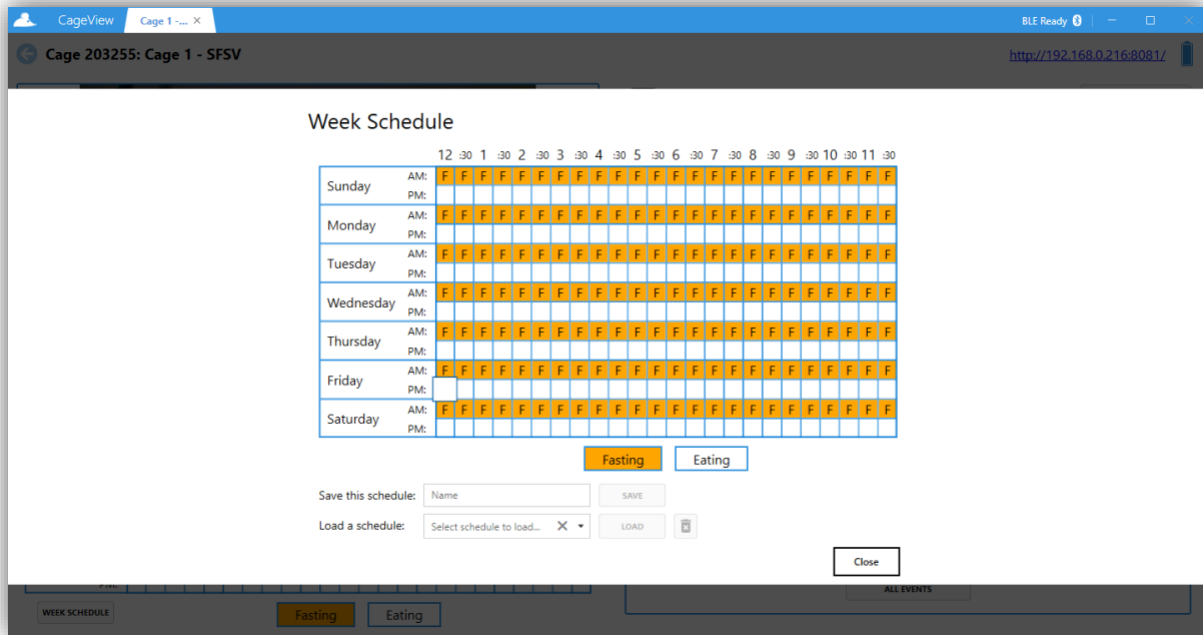

Figure 19. Week schedule dialog
5.2.4. The full weekly diet schedule is presented in the week schedule dialogue, as shown in **Figure 19**. Editing this diet schedule is the same as the focused version. The user can either click on each box individually or press down the mouse button and swipe to change multiple at once. The user can also use this dialogue to save and load their defined diet schedules in the App.